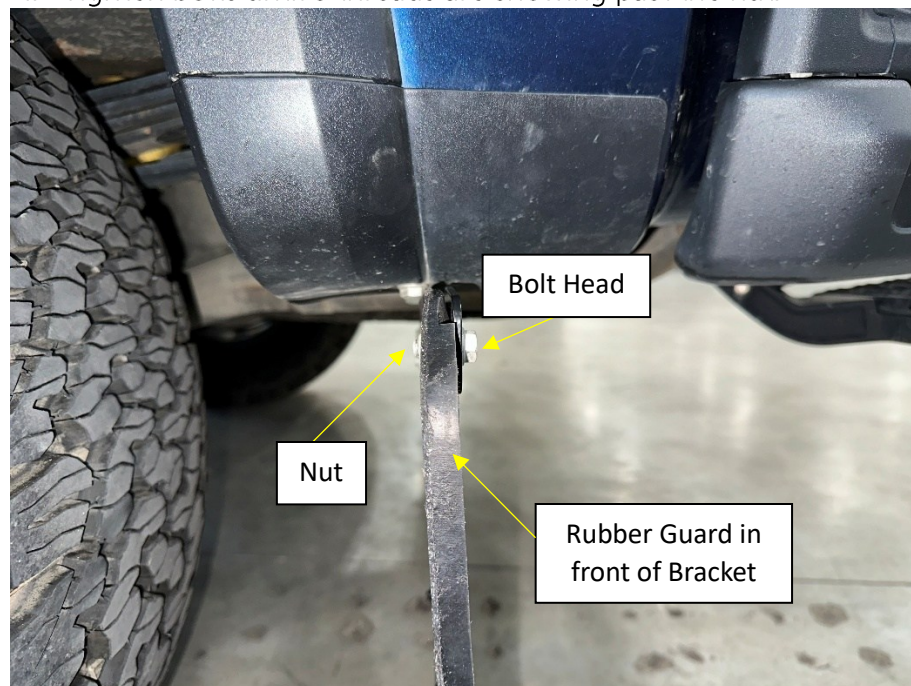

Figure 10
3. Install the rubber piece onto your AEV splash guard bracket. This bracket will glove into the pre-molded recession on the rubber piece (Figure 10).